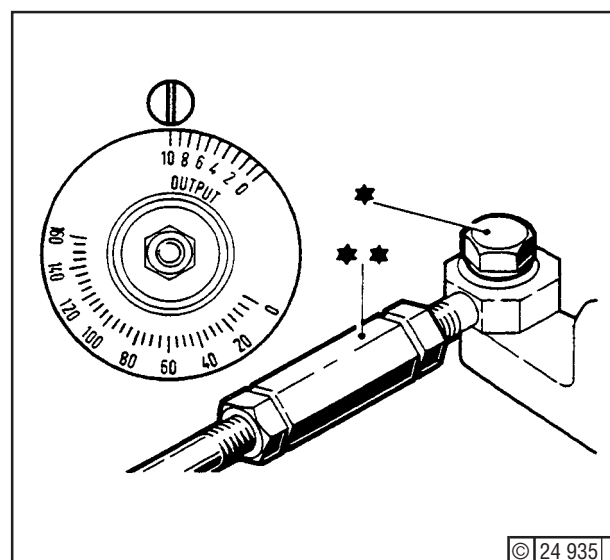

Fig. 13
10. Turn governor to graduation (10) - Fig. 13 - and secure link C1 to point A5 (*). Adjust length of link at point C5 (**) to ensure freedom from internal stressing. Remove tool from all injection pumps (see Fig. 7).